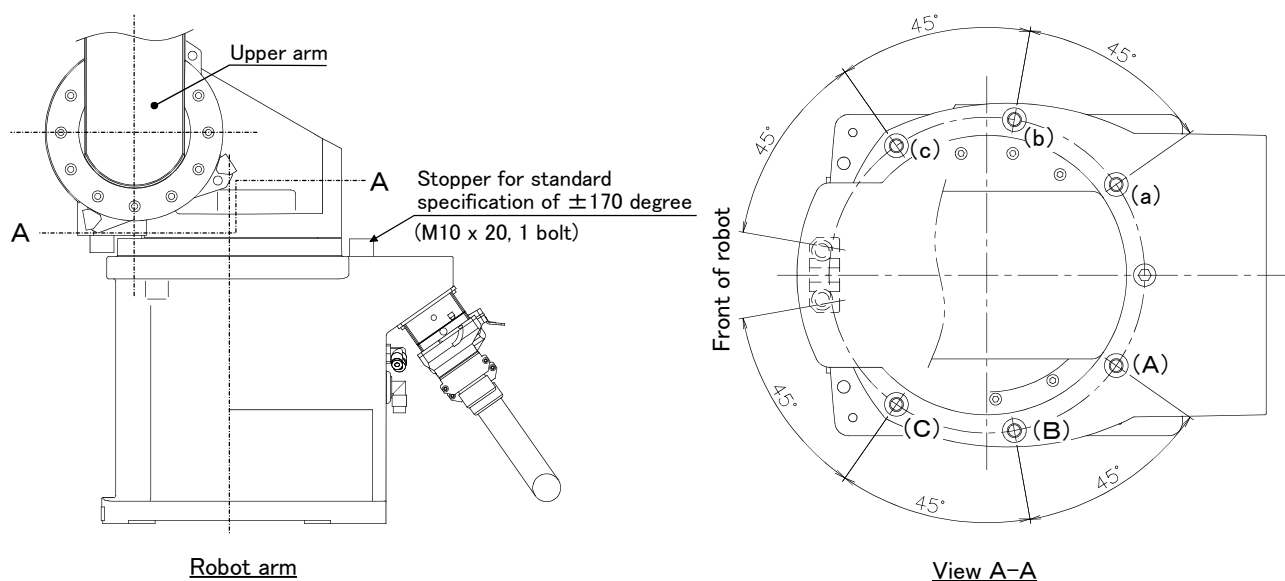

Fig.3-2 : Installation of operating range change option
Note) The insertion position given in the table indicates the insertion position for the operating range change stopper. (Refer to Fig. 3-2.)
- 1) Move the upper arm to the posture as shown in Fig. 3-2 by jog operation.
- 3) By referring to Table 3-2 and Fig. 3-2, insert the two stoppers (M10 x 20) used to change the movement range of J1 axis at the angular position to be changed, and fix securely by applying a clamping torque of 70 N · m to 86 N · m.
Do not remove the stopper for the standard specification of  $\pm 170$  degree shown in Fig. 3-2.